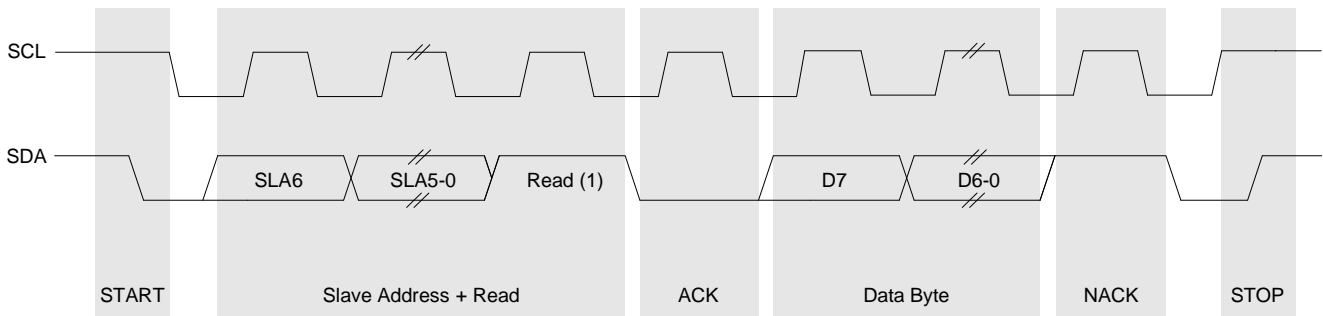

Figure 6. Typical CP2112 Read
A typical SMBus transaction consists of a START condition followed by an address byte (Bits7–1: 7-bit slave address; Bit0: R/W direction bit), one or more bytes of data, and a STOP condition. Bytes that are received (by a master or slave) are acknowledged (ACK) with a low SDA during a high SCL (see Figures 6, 7, and 8). If the receiving device does not ACK, the transmitting device will read a NACK (not acknowledge), which is a high SDA during a high SCL.
The direction bit (R/W) occupies the least-significant bit position of the address byte. The direction bit is set to logic 1 to indicate a "READ" operation and cleared to logic 0 to indicate a "WRITE" operation. All transactions are initiated by a master, with one or more addressed slave devices as the target. The master generates the START condition and then transmits the slave address and direction bit. If the transaction is a WRITE operation from the master to the slave, the master transmits the data one byte at a time waiting for an ACK from the slave at the end of each byte. For READ operations, the slave transmits the data waiting for an ACK from the master at the end of each byte. At the end of the data transfer, the master generates a STOP condition to terminate the transaction and free the bus. Figure 6 illustrates a typical CP2112 read transaction, and Figure 7 illustrates a typical CP2112 write transaction.
- Updated Figure 6 and added Figures 7 and 8.